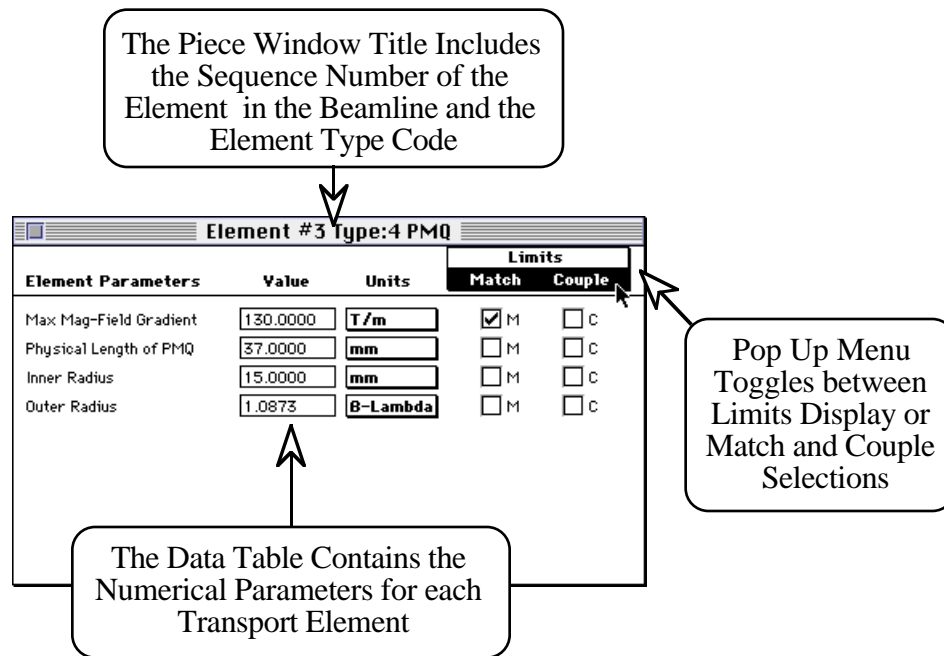

Figure 3-6. Example of a PowerTrace Piece Window showing Match and Coupling Check Boxes for Piece Parameters.
Parameter input for transport elements is done through the Data Tables in PowerTrace Piece Windows. Piece Windows are accessed by “double clicking” the mouse button while the cursor is on the desired transport element icon in the Document Window. Figure 3-6 illustrates a Piece Window for the Permanent Magnet Quadrupole (PMQ) element. Each Piece Window consists of a Title Bar with close box and a Data Table. The Data Table includes four fields of data: (1) a description of the Element Parameters, (2) a Value field for data entry of the numerical parameters, (3) a Units field which provides options through pop up menus and (4) a Limits field which gives lower and upper limits based on a expert system set of knowledge based rules.
Several features of the Piece Window Data Table are illustrated in Figures 3-6 and 3-7. All numerical data is entered into the Value fields of the Piece Window Data Table. Default values have been defined for all parameters and these are the initial values when a Piece icon is placed on the Model Space. When a new value is entered into a Value field the limits for that Piece Window are updated. (For some specialized Pieces that interface with the FORTRAN, such as the Initial and Final Pieces, certain data is not updated until the Piece Window is closed.)